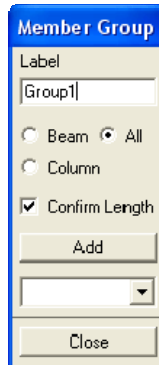

Figure 5-23 Member Group dialog box
- From the Assign menu, choose Member Group. The modeless dialog box of Figure 5-23 appears. To end member group assignment, choose the CLOSE button.